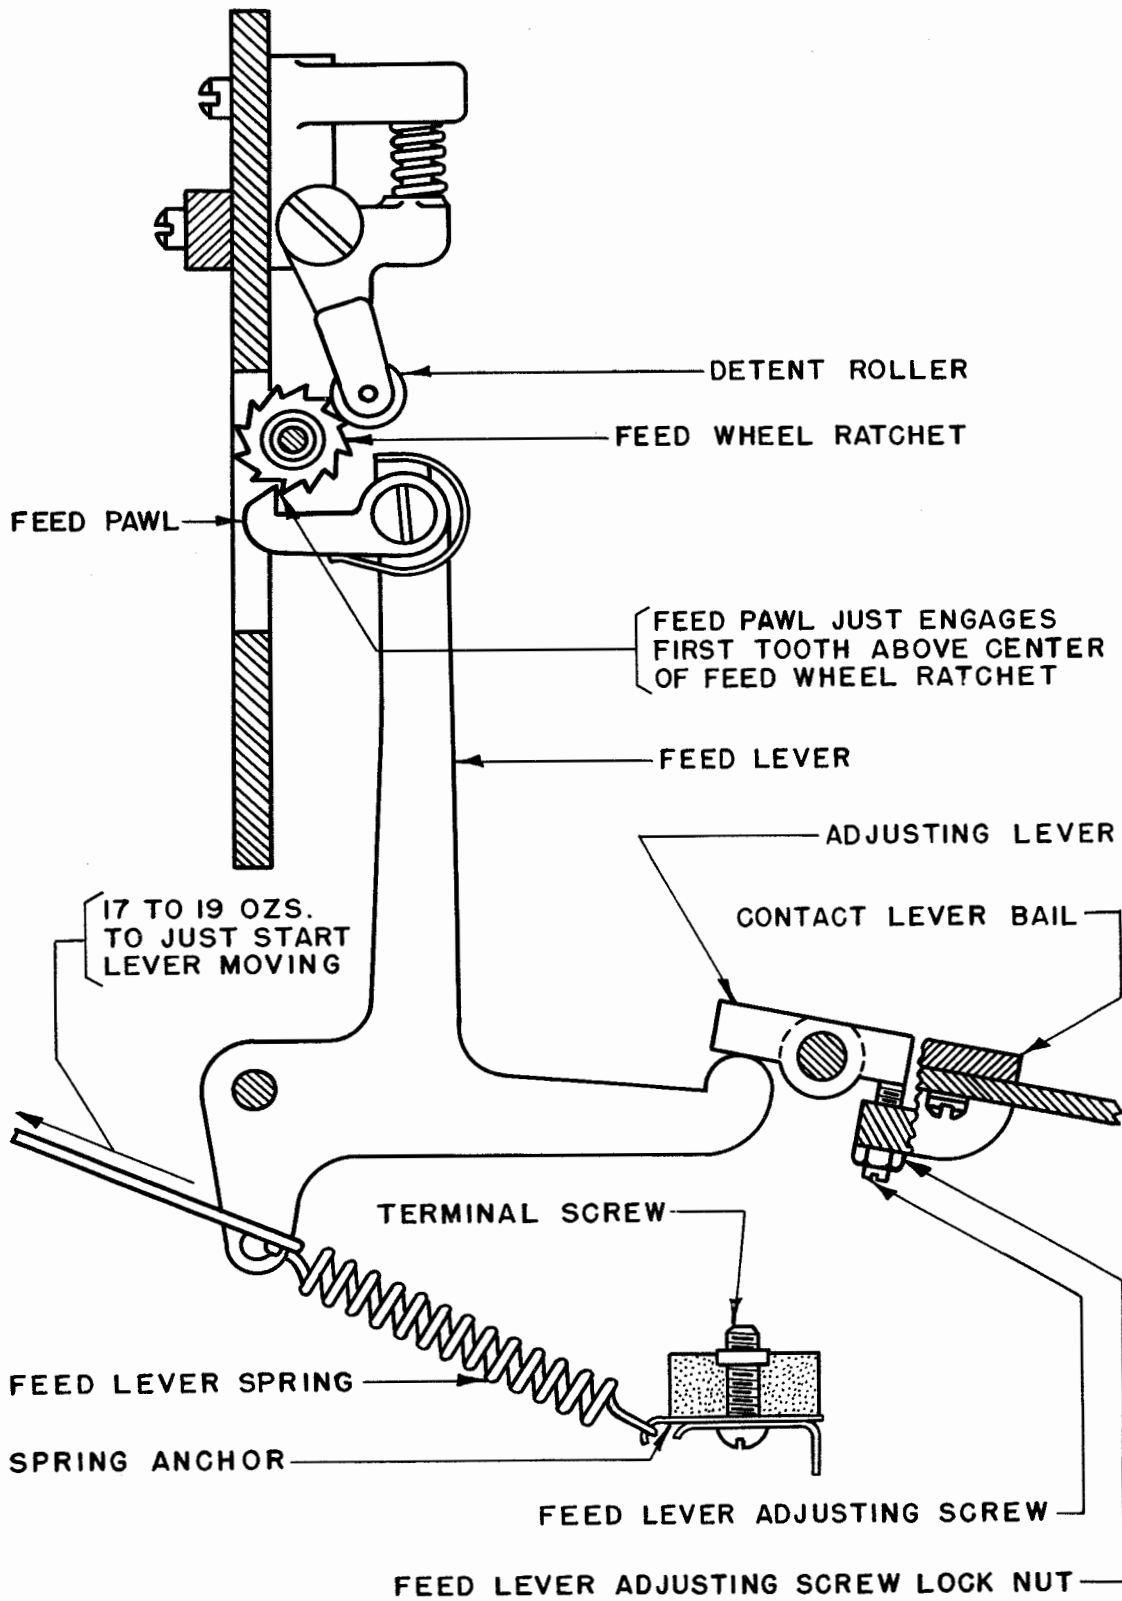

Figure 24
3.12 Feed-lever Adjusting Screw: When the contact-lever bail is slowly operated by hand, the feed pawl shall just engage the first tooth above the horizontal center of the feed-wheel ratchet when the tape pins are flush with the upper surface of the tape guide on which the tape rests. (See Figure 24.)
(b) Rotate the motor manually until the adjusting lever (Figure 24) just contacts the lobe on the feed lever. With the contact-lever bail
4.06 Feed-lever Spring: With the operating lever roller on the low part of its cam, it shall require an upward pull of minimum 17 ounces, maximum 19 ounces to start the feed lever moving. (See Figure 24.)